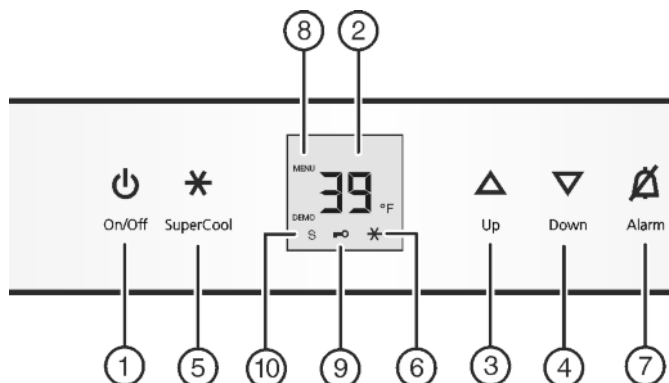

Fig. 3
- Press On/Off button Fig. 3 (1).
- Activate setting mode: Press SuperCool button Fig. 3 (5) for about 5 seconds.
- ▷ The SuperCool button Fig. 3 (5) will flash.
- ▶ Using Up button *Fig. 3 (3)*/ Down button *Fig. 3 (4)* select °.
- ▶ To confirm: Briefly press SuperCool button *Fig. 3 (5)*.
- ▶ Using Up button *Fig. 3 (3)*/ Down button *Fig. 3 (4)* select °F or °C.
- ▶ To exit setting mode: Press On/Off button *Fig. 3 (1)*.
- ▶ Select setting mode: Press and hold the SuperCool button *Fig. 3 (5)* for approx. 5 seconds.
- ▶ Using the Up *Fig. 3 (3)* or Down button *Fig. 3 (4)*, select c.
- ▶ Press the SuperCool button *Fig. 3 (5)* briefly to confirm.
- ▶ To switch on the child proof lock, press the SuperCool button *Fig. 3 (5)* briefly.
- ▷ The Child safety symbol *Fig. 3 (9)* lights up. c flashes on the display.
- ▶ To switch the child proof lock off, press the SuperCool button *Fig. 3 (5)* briefly.
- ▷ The Child safety symbol *Fig. 3 (9)* goes out. c flashes on the display.
- ▶ To deactivate setting mode: Press the On/Off button *Fig. 3 (1)*.
- ▶ Press Alarm button *Fig. 3 (7)*.
- ▶ To activate setting mode: Press and hold the SuperCool button *Fig. 3 (5)* for approx. 5 s.
- ▷ The Menu symbol *Fig. 3 (8)* lights up.
- ▶ To access the Sabbath mode function: Briefly press the SuperCool button *Fig. 3 (5)*.
- ▶ To turn on Sabbath mode, briefly press the SuperCool button *Fig. 3 (5)*.
- ▶ To turn off Sabbath mode, briefly press the SuperCool button *Fig. 3 (5)*.
- ▷ The Sabbath Mode symbol *Fig. 3 (10)* appears on the temperature display as long as Sabbath Mode is active.